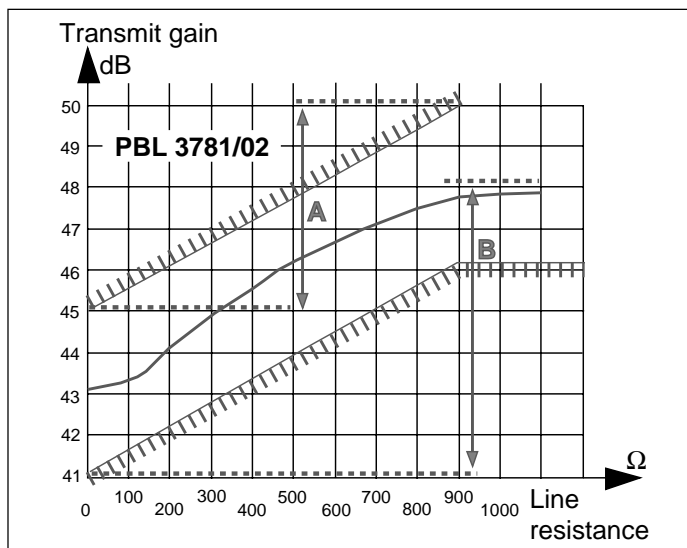

Figure 6. Transmitting gain, gain versus line resistance.
**Note 1.** For a circuit with a gain of 41 dB at  $R_L = 0 \Omega$ , the gain will be minimum 46 dB as specified or maximum 48 at  $R_L = 900 \Omega$  since the gain regulation range must be less than 7 dB (B in fig. 6).
Correspondingly, if the gain is 45 dB at  $R_L = 0 \Omega$ , the gain will be maximum 50 dB as specified or minimum 48 at  $R_L = 900 \Omega$  since the gain regulation range must be more than 3 dB (A in fig. 6).